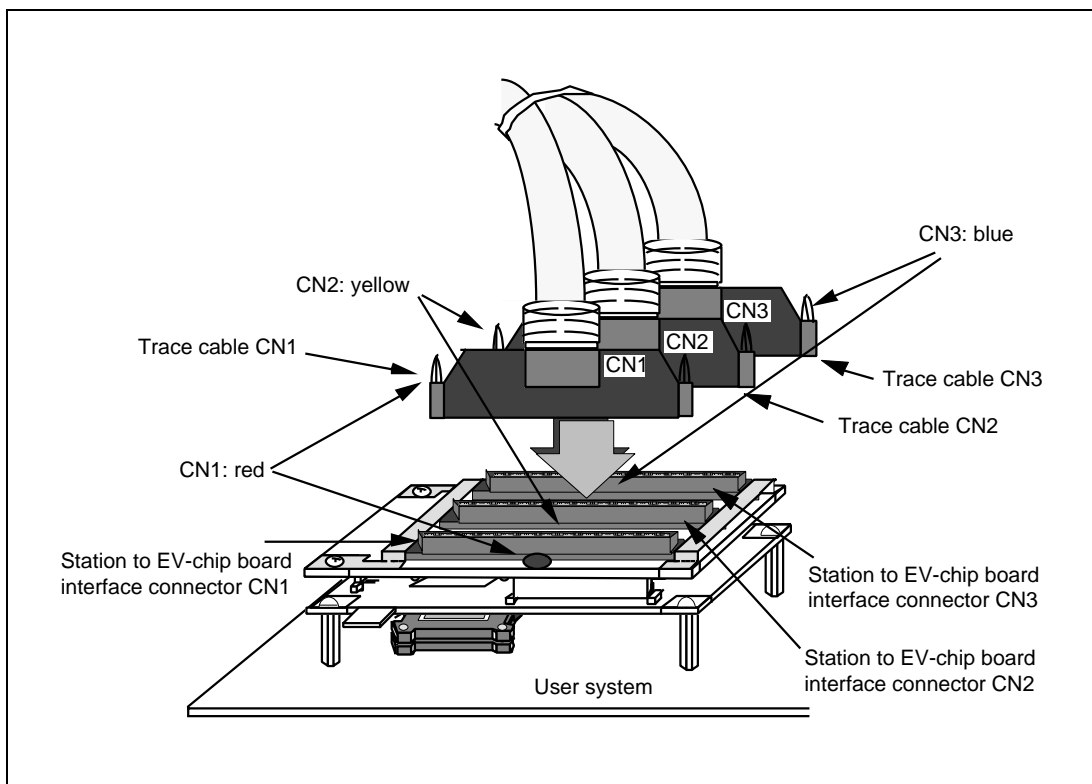

Figure 3.4 Connecting Trace Cables to the EV-Chip Board
4. Connect the trace cables to the station to EV-chip board interface connectors CN1, CN2, and CN3 on the EV-chip board. Confirm that each trace cable connected to a connector on the E8000 station is also connected to its corresponding station to EV-chip board interface connector on the EV-chip board. Connect the cables using the same method as in step 3. Figure 3.4 shows how to connect the trace cables to the EV-chip board interface connectors.